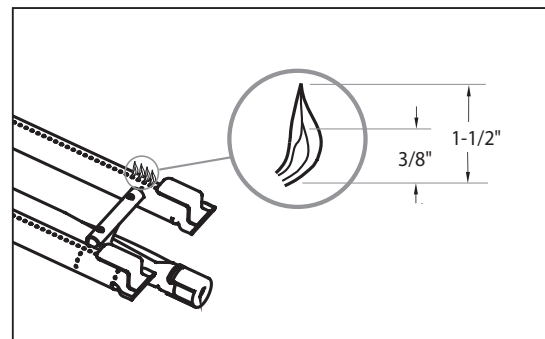
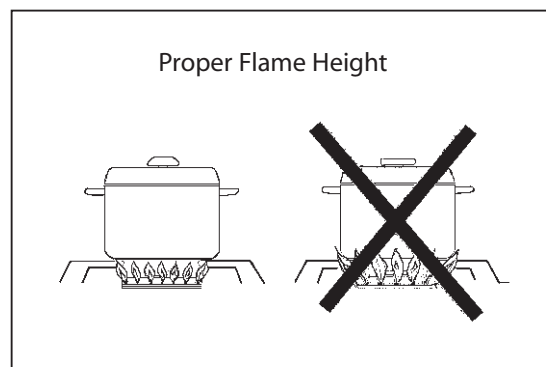

FIG. 07 Burner Flame Height
Fig. 08
To access the grill burner air shutters first remove the valve panel by removing it the same way as described on page 12, section "Before Testing". With a screw driver, loosen the lock-screw on the face of the air shutter. Light the burner and adjust according to the directions (Fig. 07).
- For safety reasons the flame must never extend beyond the bottom of the cooking utensil. Never allow flames to curl up the side of the pan (see Fig.08).
Each grill burner is tested and adjusted at the factory prior to shipment; however, variations in the local gas supply or a conversion from one gas to another may make it necessary to adjust the burners. The flames of the burners (except the rotisserie burner) should be visually checked and compared to that of the drawing in Fig.07 and Fig. 08. Flames should be blue and stable with no yellow tips, excessive noise or lifting. If any of these conditions exist, check if the air shutter or burner ports are blocked by dirt, debris, spider webs, etc. Proceed with air shutter adjustment. The amount of air which enters a burner is governed by a sheet metal cup at the inlet of the burner called an air shutter. It is locked in place by a set screw which must be loosened prior to lighting the burner for adjustment.